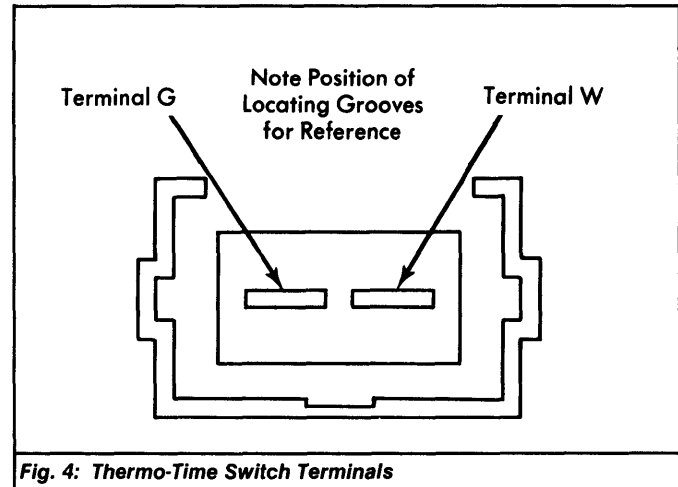

Fig. 4: Thermo-Time Switch Terminals
- 1) Unplug connector at thermo-time switch. Connect Brown/Black wire (terminal W) to ground. See Fig. 4. Disconnect wire from lowest terminal of starter solenoid to prevent engine from starting during test.
Unplug connector at thermo-time switch. Connect test light between battery positive terminal and Brown/Black wire (terminal W) of thermo-time switch. See Fig. 4. Test light should come on, and remain on for 8 seconds, if engine coolant temperature is below 95°F (35°C). If not, replace defective thermo-time switch.